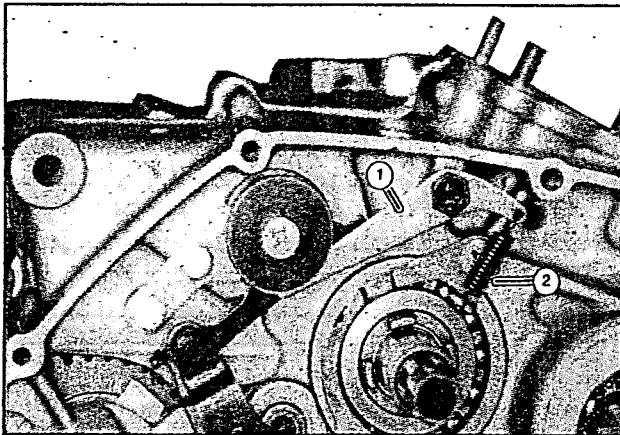

Fig 3.85
Be sure to fit washer when installing gear shifting cam stopper (1). Hitch the spring (2) to the cam stopper lever (fig 3.85)